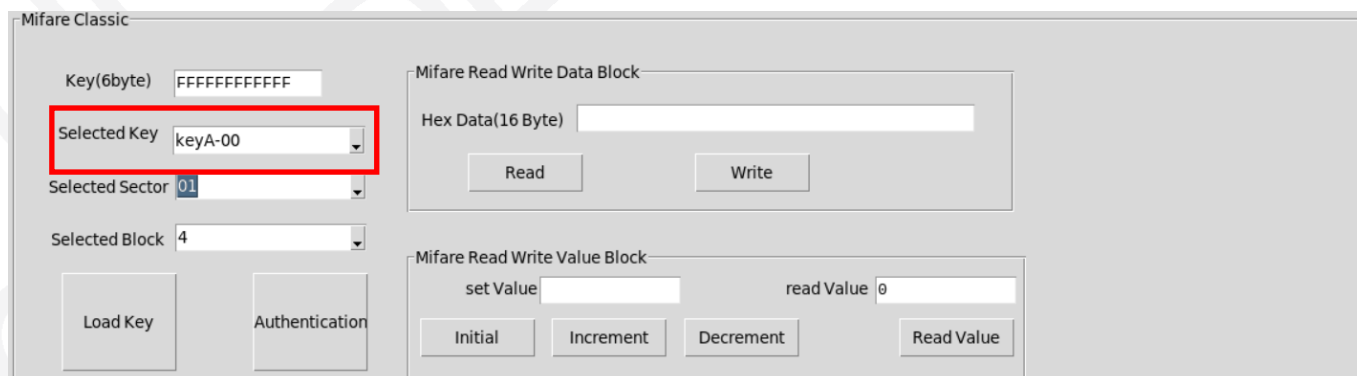

Figure 6.3-1 Select KeyA or KeyB to be used in authentication
4. Click “Selected Key” drop-down list to select KeyA or KeyB to be used in authentication, as shown in Figure 6.3-1.